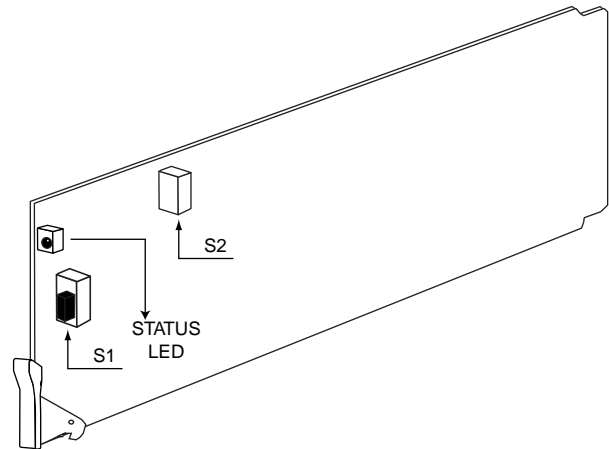

Figure 1. ADTRAN BR1/10 DSL Continuity Tester
This practice provides installation and maintenance procedures for the ADTRAN BR1/10 DSL Continuity Tester. The Tester unit is used to provide verification of DSL wiring between the BR1/10 channel bank and central office (CO) main distribution frames (MDF). The Tester unit is designed specifically for the ADTRAN BR1/10 channel bank and is not used in any other product. Figure 1 illustrates the ADTRAN BR1/10 DSL Continuity Tester.
1. Before inserting the Streaker card into the desired slot, select which pairs to test using switch SW1 (up = T,R; down = T1, R1). Also, select the buzzer operation using switch SW2 (up = on; down = off). Figure 1 illustrates the switch positions.